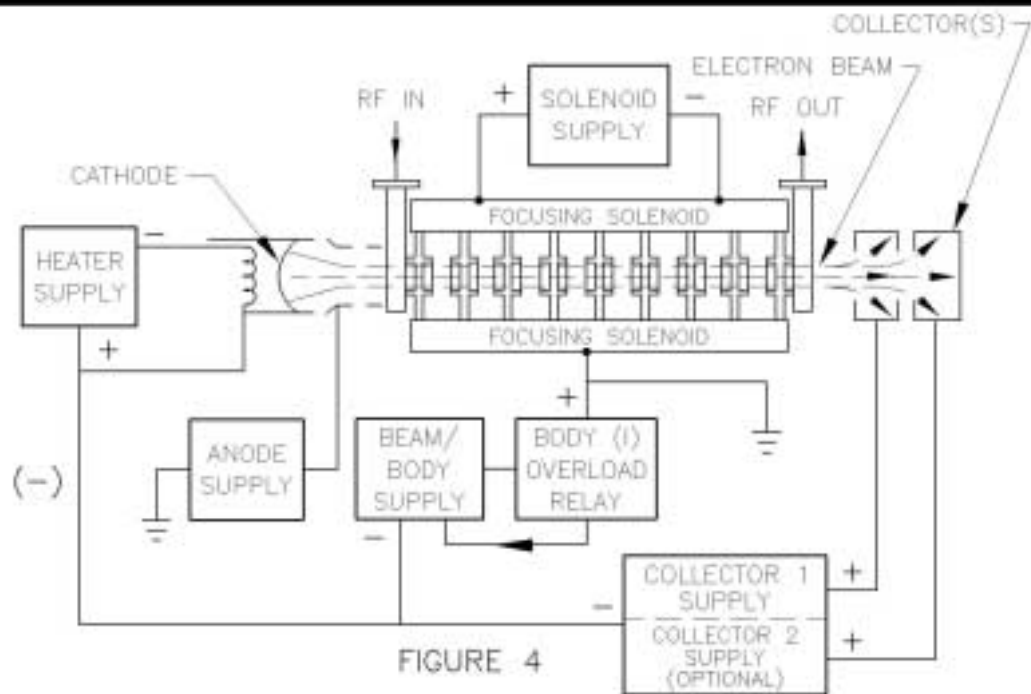

FIGURE 4
- Figure 4 - CW: No control electrode; multiple collector(s) anode supply with solenoid supply for beam focusing.